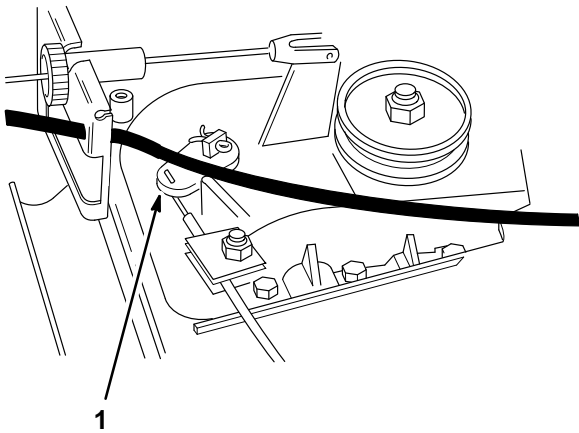

Figure 13
9. Route throttle cable across top of transmission (Fig. 13).